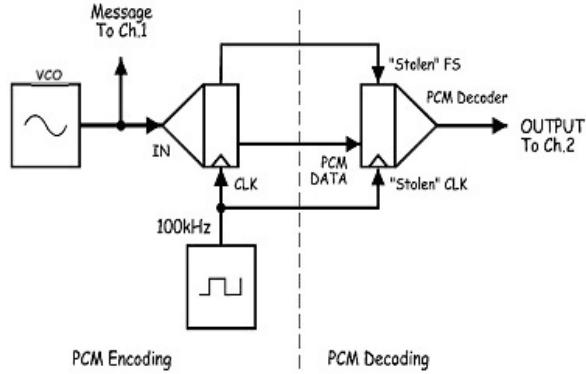

Figure 19: PCM decoder.
- Connect the setup shown in Figure 19 below.